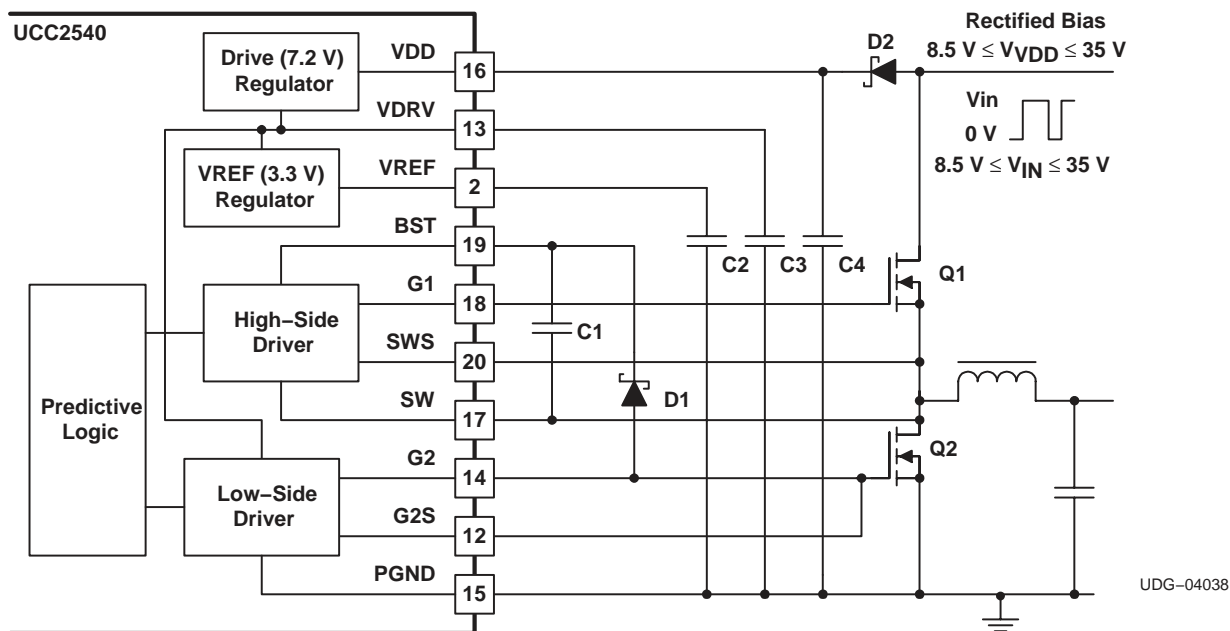

Figure 13. Mode 1 With Rectified Biasing for Input Voltages Between 8.5 V and 35 V
- Mode 1, or normal operation requires the availability of a bias of 8.5 V or higher for the device. Here, the bias drives the VDD pin. The low-side drive bias, V_{VDRV} = 7 V, is generated from an internal linear regulator and it directly draws current from the VDD pin. The high-side driver bias is a flying capacitor that is charged from the VDRV pin through the G2 pin, when G2 is HI, via a diode between G2 and BST. The UCC2540 operates in Mode 1 if V_{VDD} > (V_{VDRV} and V_{VREF}) when V_{VREF} rises above 2 V. Mode 1 permits the widest range of bias voltages, operational from 8.5 V < V_{VDD} < 35 V. This mode is compatible with systems that have a 12 V_{DC} bias supply already available. Alternatively, Mode 1 is particularly useful for applications where the input line voltage varies over a wide range and the bias is to be derived directly from the reflected line voltage, such as in Fig. 13.
Assorted combinations of modes and biasing schemes are shown in Figure 13 through Figure 18. In Mode 1 and Mode 2, the bias voltage can either be an independent auxiliary supply or it can be generated by rectifying and filtering the reflected line voltage, as shown in Figure 13 through Figure 16. A regulated auxiliary supply must be used with Mode 3 because the tolerance of the VREF voltage is the control tolerance of the UCC2540. In Mode 3, the regulated auxiliary supply can be independent of the power supply input voltage (as shown in Figure 18) or, the regulated auxiliary supply can be the same source as the power supply input voltage.
Capacitors C1 through C5 are all part of a charge distribution network that allows the UCC2540 to pass charge to the MOSFET gates of Q1 and Q2 (all reference designators in this section refer to the schematics in Figure 13 through Figure 18). This section gives guidelines on selecting the values of C1 through C5 so that the converter functions properly. Specific capacitor values may need to be larger than the recommended value due to MOSFET characteristics, diode D1 – D4 characteristics and closed-loop converter performance. All three modes of operation require a charge pump capacitor and diode, C1 and D1, in order to drive the high-side power MOSFET. Modes 2 and 3 require additional charge pump capacitors and diodes in order to supply voltage to VDD. In general, all charge pump diodes should be Schottky diodes in order to have low forward voltage and high speed. The charge pump capacitors should be ceramic capacitors with low effective series resistance (ESR), such as X5R or X7R capacitors.